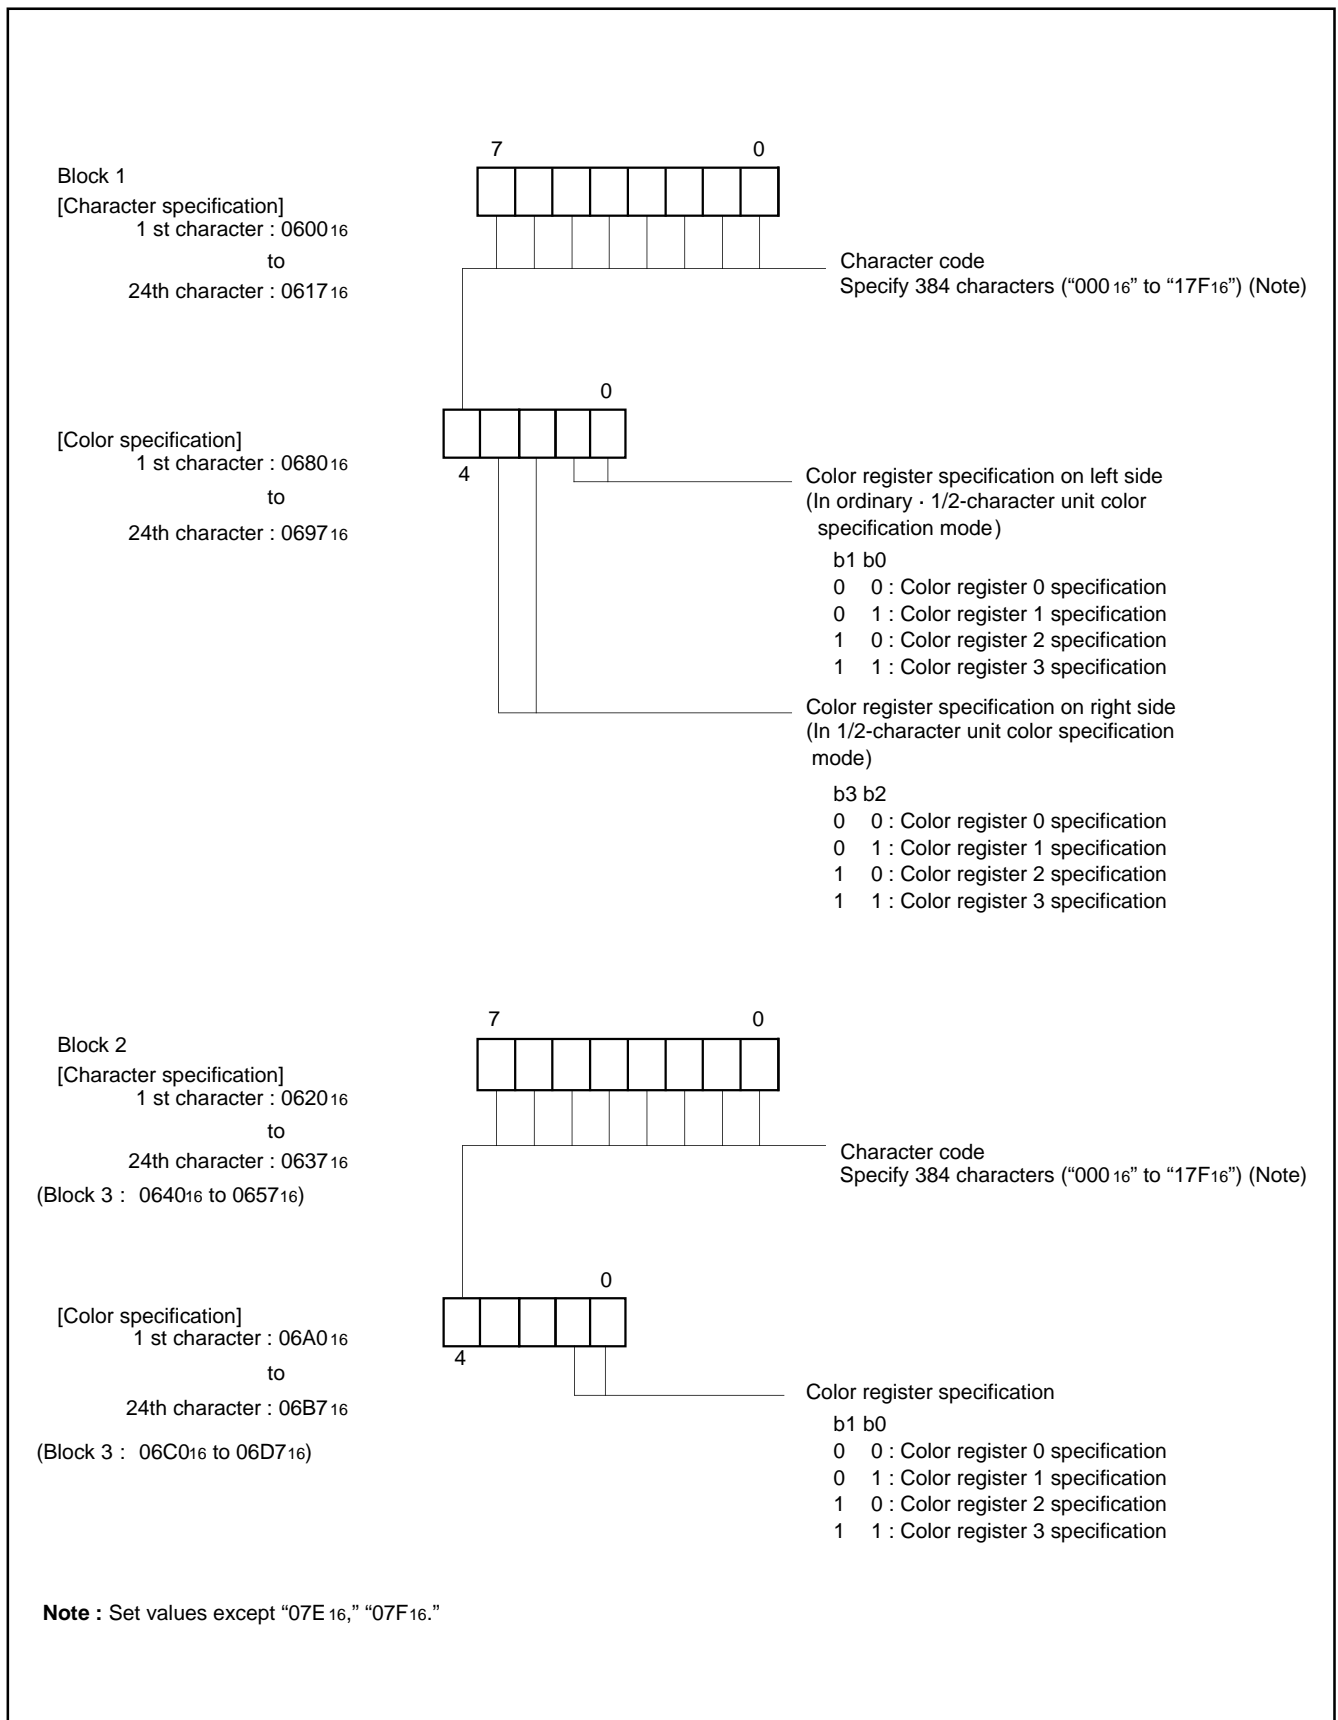

Fig. 53. Structure of RAM for Display
For example, to display 1 character position (the left edge) in block 1, write the character code in address 0600₁₆ and write the color register No. to the low-order 2 bits (bits 0 and 1) in address 0680₁₆. The color register No. to be written here is one of the 4 color registers in which the color to be displayed is set in advance. For details on color registers, refer to (5) Color Registers. The structure of the CRT display RAM is shown in Figure 53.